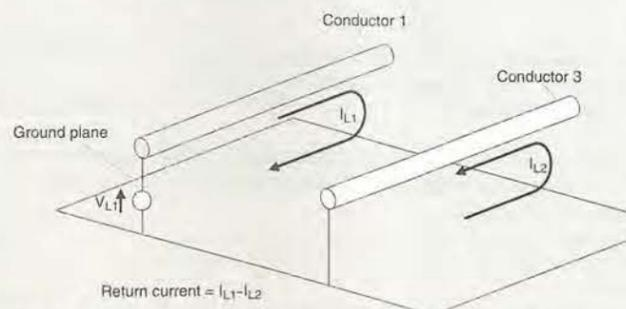
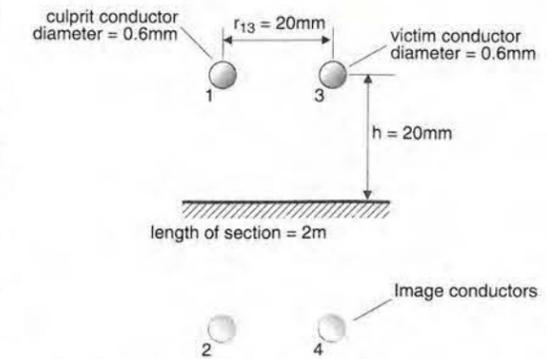

Fig. 3. Here, conductors 2 and 4 are replaced by a ground plane.
Fig. 8. Physical dimensions of the two wires over a ground plane used in the example.
Fig. 4. Single-sided routing of the rat's nest of Fig. 3 with *MultiRouter* took just 15 minutes on a 133MHz Pentium with 32Mbyte of ram. Note that the amount of track mitreing is controlled from the configuration menu and this pattern is my own personal choice.
If conductors 2 and 4 are replaced by a ground plane and V_{L2} is replaced by a short circuit, the picture changes to that shown on Fig. 3. The relationships of equations (6) and (7) continue to apply. Substituting them in equation set (1) and taking account of symmetry of the image conductors leads to the loop equations,
With a one-to-one correlation between the conductors of Fig. 3 and the horizontal branches of the circuit, Fig. 7 can be treated as a section of a three-conductor transmission line. The simulation is surprisingly accurate².
To put flesh on the bones of the dry theory in the panel entitled 'Formulations', the first action is to assign dimensions to the physical parameters of Fig. 3 shown in the panel. One example is shown in Fig. 8.